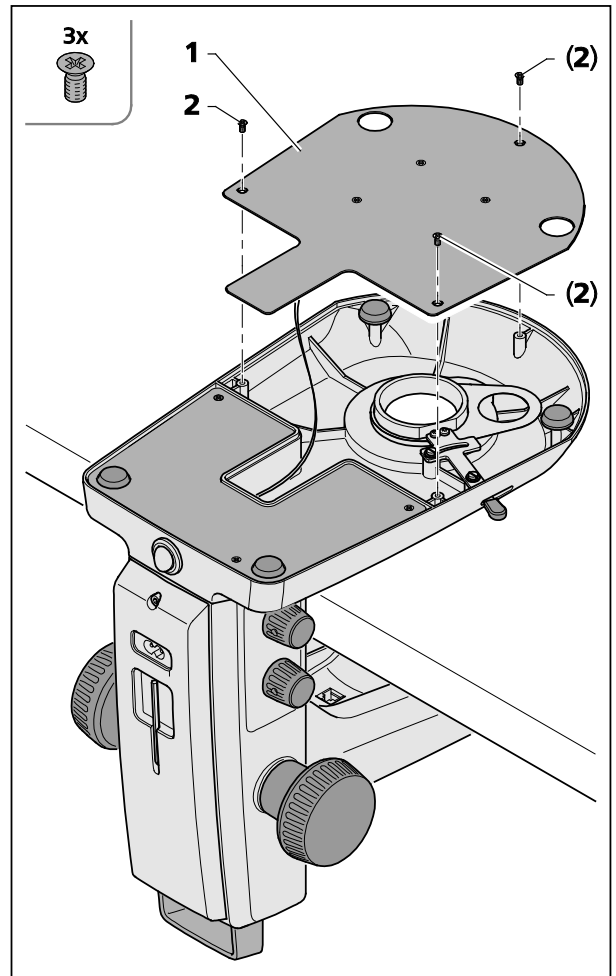

Fig. 22 Opening the stand cover plate,
The stand cover plate (Fig. 22/1) may be removed for cleaning or to remove any foreign matter which might have fallen in inadvertently.
- To this effect, release the three recessed head screws (Fig. 22/2), lift off the stand cover plate (Fig. 22/1) carefully and then put it aside.
- Make sure that the cable is not disconnected from the stand cover plate (Fig. 22/1).